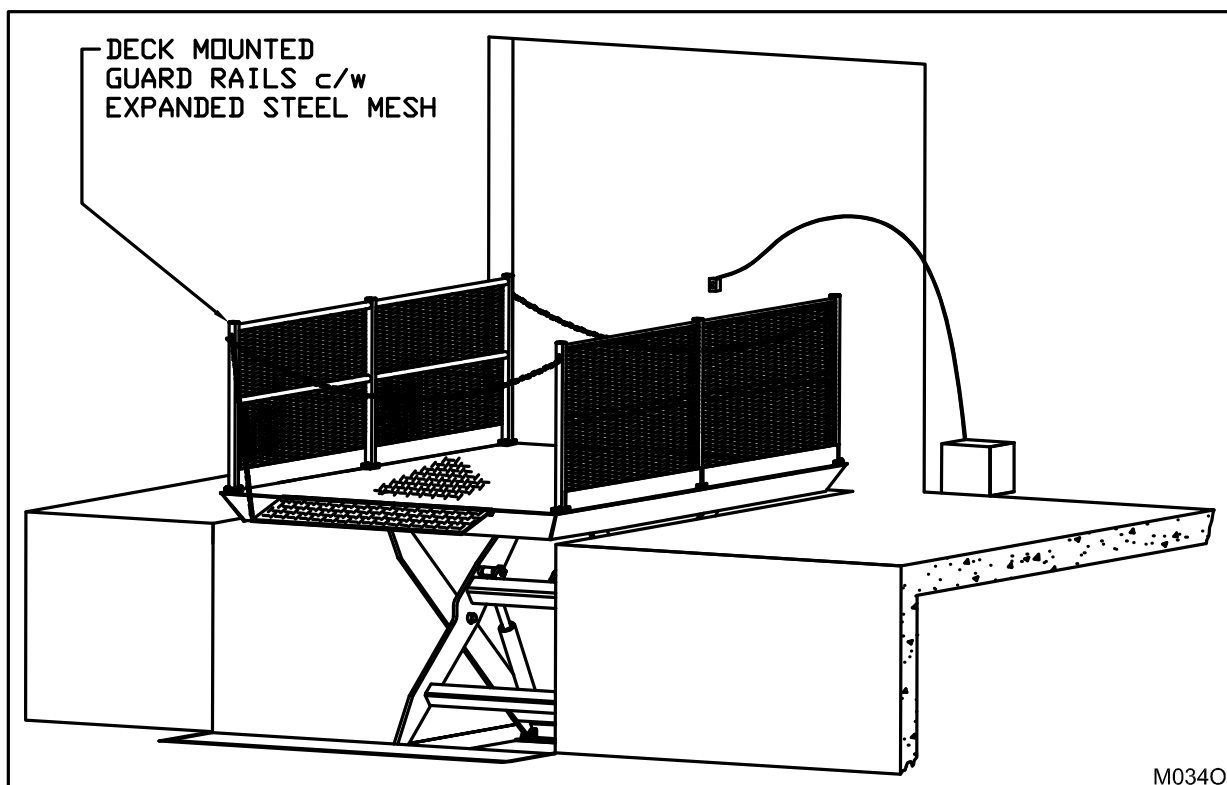

Figure 9: Guard Rails with Mesh Side Covering
1. Ordering the platform mounted guard rails with optional mesh side covering from the factory (See “Figure 9: Guard Rails with Mesh Side Covering” on page 17).